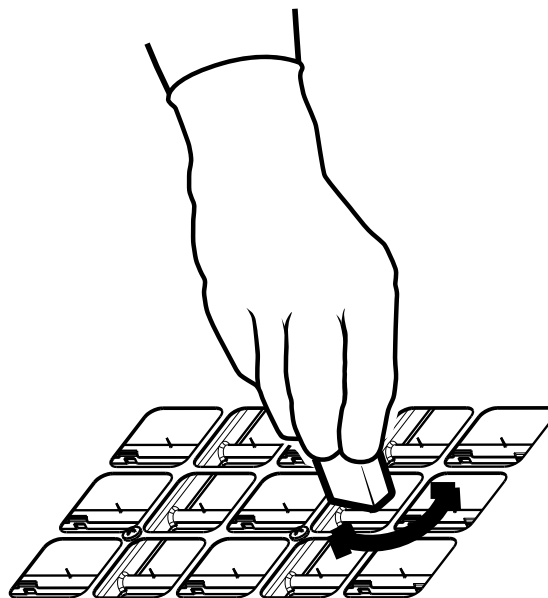

Figure 28. Rotate block of foam on FIELD CHARGER Pin
6. Rotate the foam block on the FIELD CHARGER Pin. See Figure 28.